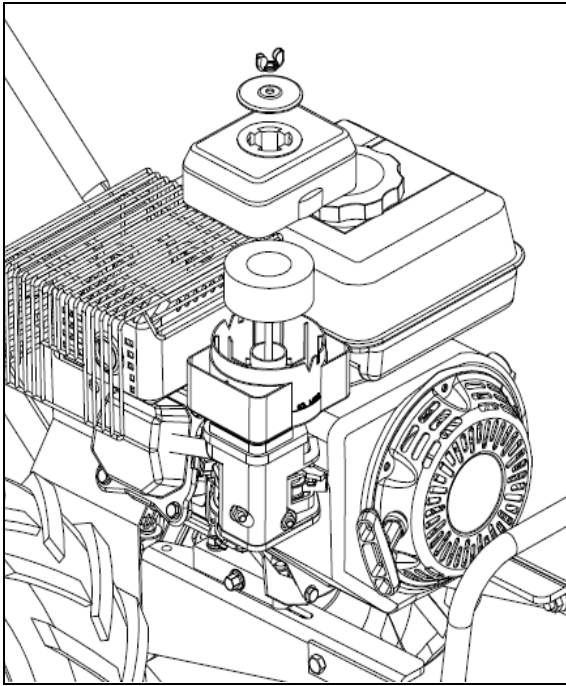

Fig. 28
1. Loosen the fixation screw anticlockwise and open the cover (Fig. 28).